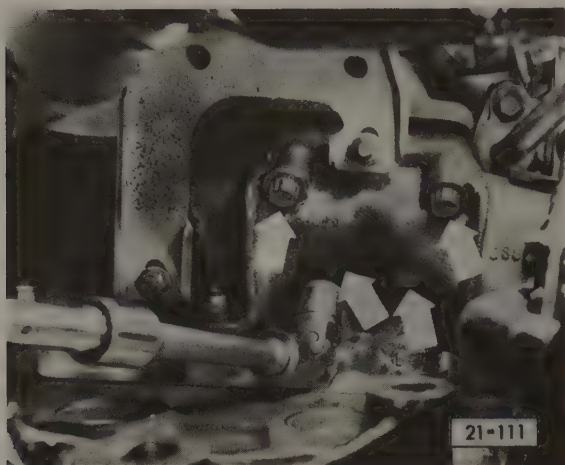

Fig. 7-3. Polygon-head bolts (arrows) to be removed.
- Working from under the vehicle, use a 12mm, 12-point socket wrench to remove the four polygon-head mounting bolts shown in Fig. 7-3 that hold the turbocharger to the exhaust manifold. Remove the turbocharger.